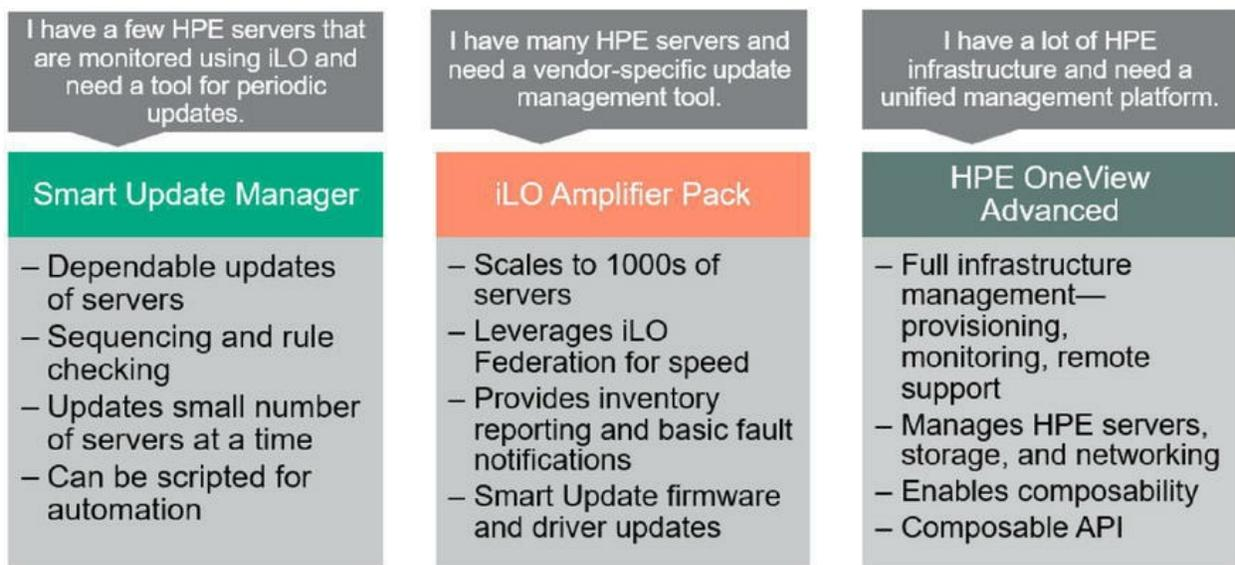

Figure 2-127 Smart Update Tools and how they help customers
As reference in Figure 2-127, HPE Smart Update Tools (SUT/iSUT) are a SUM extension that enables HPE OneView and HPE iLO Amplifier Pack to stage, schedule, and apply updates automatically to reduce IT operations. SUT is an operating system (OS) utility that provides the ability to perform online firmware and/or driver updates via the HPE iLO management network without the need for OS credentials. SUT supports Windows, Linux (Red Hat and SUSE), and VMware ESXi.